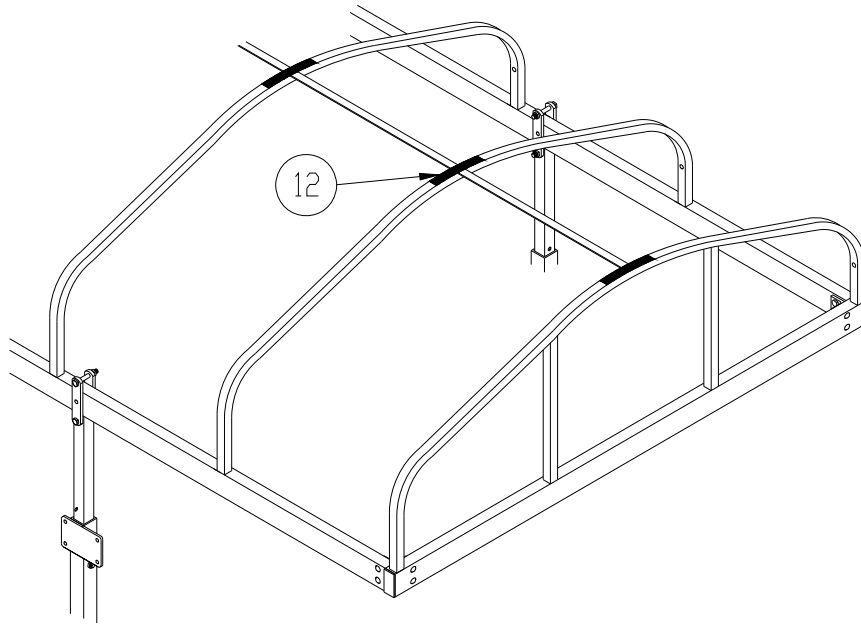

Figure 2-6.
9. Refer to **Figure 2-6**. Clean the top of the canopy bands at splice ends, 1/4" carriage bolt heads, and top of ribs (about 5 inches each side of bolt) with cloth dampened in rubbing alcohol. Allow surface to dry.